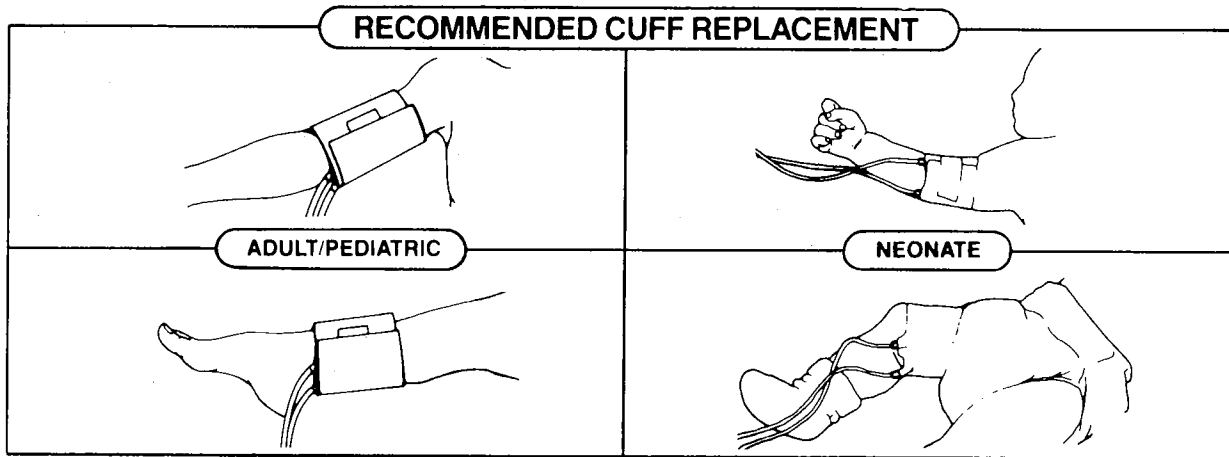

Figure 6-1 Cuff Placement
7. Place the cuff on the patient as shown in Figure 6-1. Observe the mark on the inside of the cuff to be placed over the artery. Be sure the cuff is not so tight as to prevent venous return between determinations.